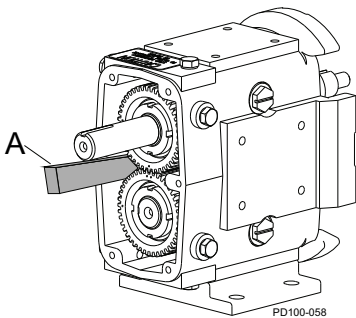

Figure 290 - Block Shaft Rotation
4. Use a wood or nylon block (Figure 290, item A) to keep the shafts from turning. If a block is not available, use rags to block the gears, or with one rotor on the shaft, block the rotor with a nylon dowel.